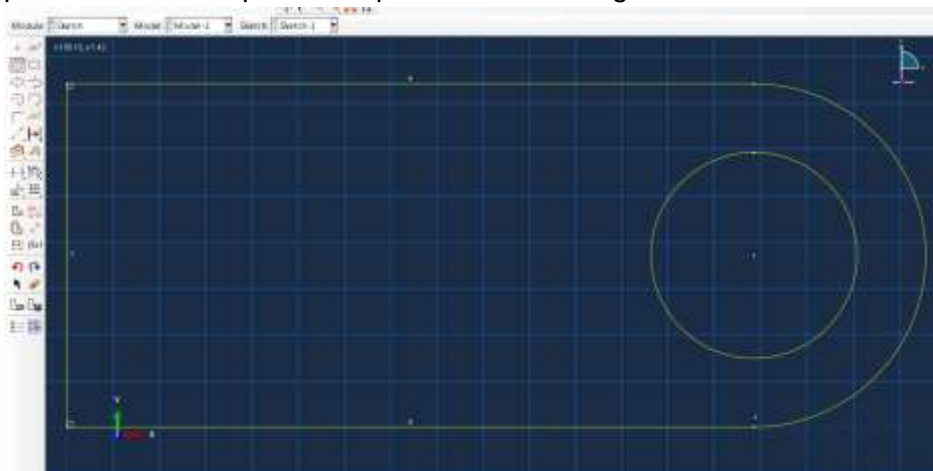

Figure W1-7 Adding Circular Hole to lug profile.
- c. Lastly, add the 30mm diameter hole for the lug using the Create Circle, Centre and Perimeter tool. Select (100,25) as the circle centre followed by (100,40) as the circle perimeter to end up with the profile shown in Figure W1-7